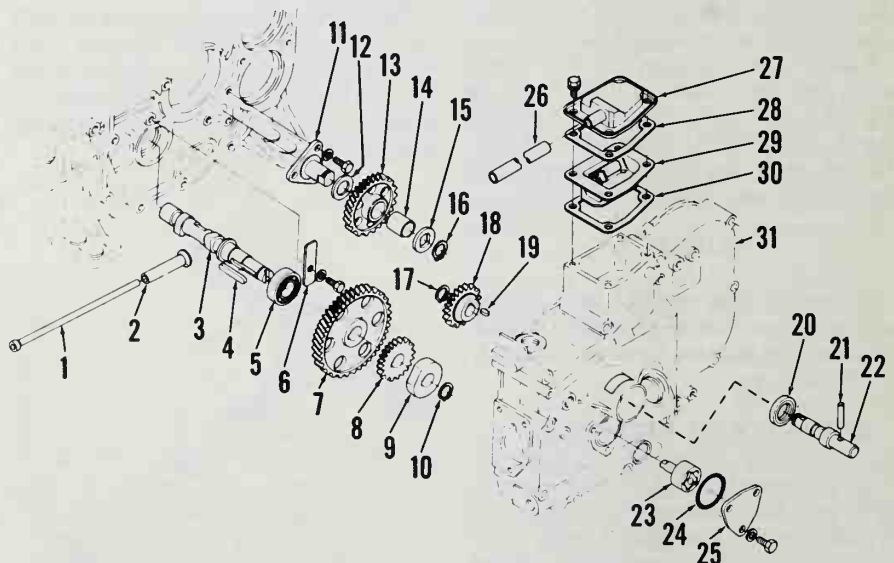

Fig. K1-16—Exploded view of camshaft, idler and oil pump assemblies.
The injection pump tappet is actuated by cam (9—Fig. K1-16) which is attached to camshaft (3). Inspect cam each time injection pump is removed.
R&R AND OVERHAUL. Oil pump (23—Fig. K1-16) is housed in gearcase (31) and driven by a slot in the end of camshaft (3). To remove pump, unscrew cover (25) and extract pump assembly from cover.
R&R AND OVERHAUL. The balancer shafts are accessible after removing gearcase. Remove idler gear (13—Fig. K1-16), then unscrew bearing retainer (14—Fig. K1-22) and extract balancer shafts (9). Inspect shafts, gears and bearings and renew if damaged. When reinstalling balancer assemblies, refer to GEAR TRAIN section for proper timing of balancer gears.
R&R AND OVERHAUL. To remove camshaft, remove cylinder head and push rods. Remove gearcase (31 - Fig. K1-16) then unscrew bearing retainer (6). Rotate camshaft one turn to force